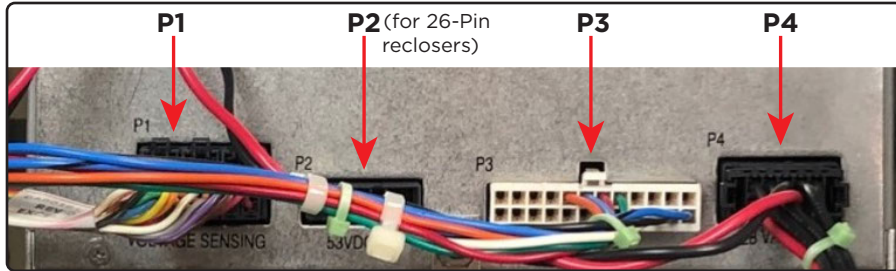

Figure 4 Verification of Control Compatibility with M-2406
The M-2406 Adapter Chassis is compatible with Eaton Cooper Form 6 Type F6-P2A and F6-P2B controls with serial numbers above 10,000 or beginning with CP57 and Triple-Single controls for 26-pin reclosers. Compatibility can be visually verified by examining the back of the Form 6 control. If the control has **P1**, **P2**, **P3**, and **P4** connectors (Figure 4), then the M-2406 Adapter Chassis is able to be installed in the Eaton Cooper Form 6 control cabinet.
4. Disconnect **P1**, **P2**, **P3**, and **P4** wire harnesses from the back of the Eaton Cooper Form 6 control panel (Figure 4). Gently press down on the wire harness connector tabs to remove them from the plugs.